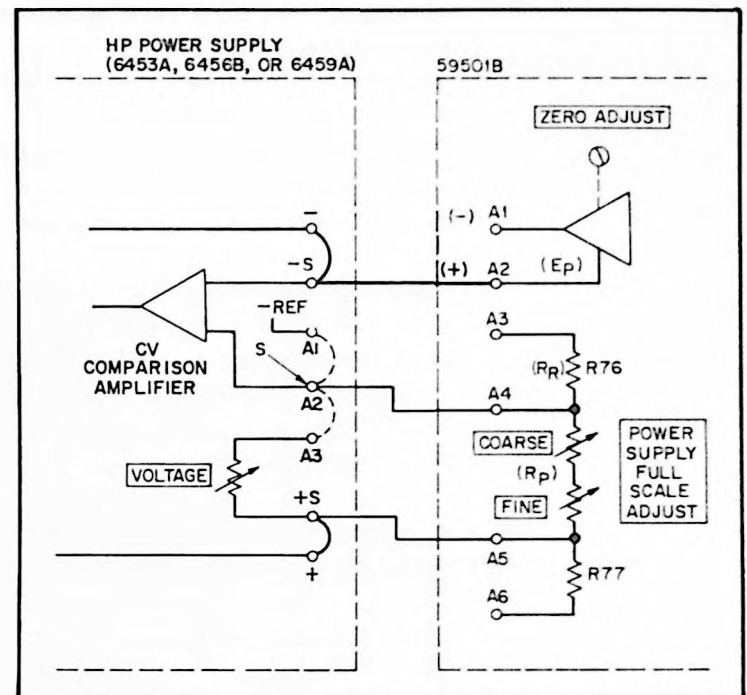

Figure 3-11. CV Programming Connections for HP Power Supply Models 6453A, 6456B, and 6459A
- Connect 59501B to BPS/A as shown in Figure 3-11.